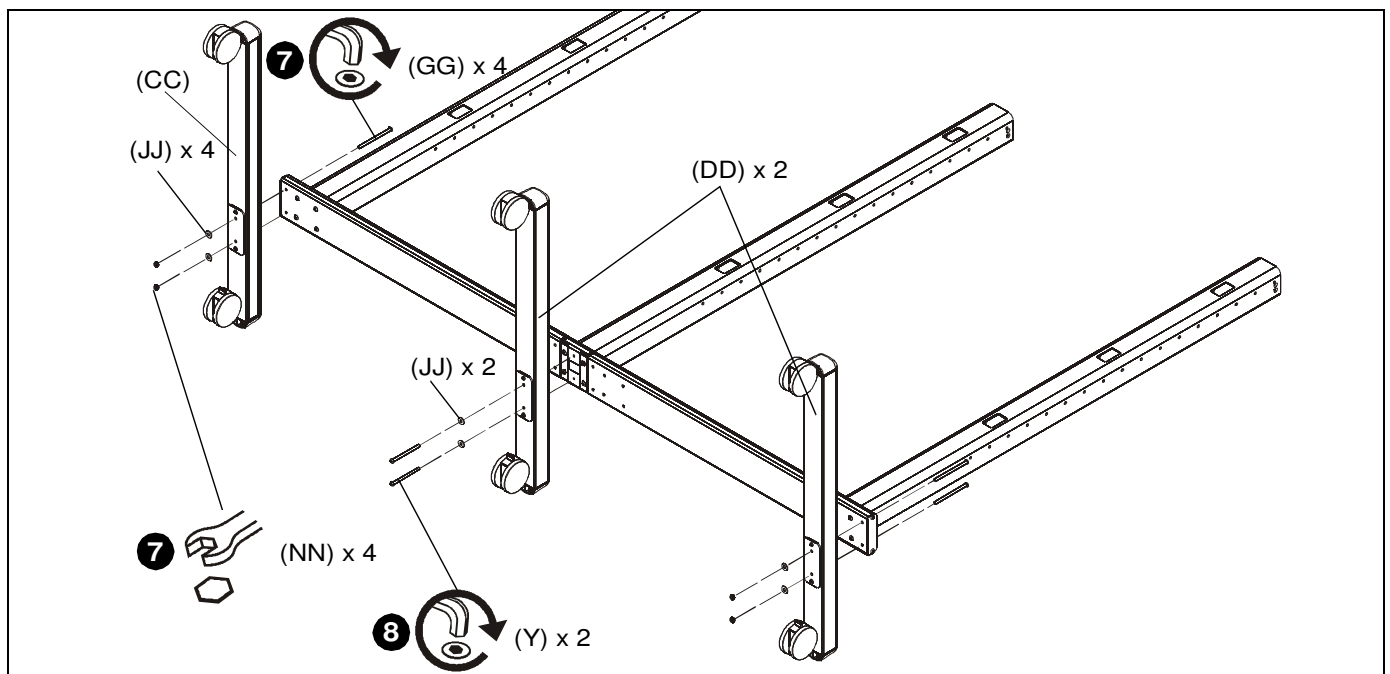

Figure 6
7. Use four 5/16-18 x 5" button head cap screws (GG), four 5/16" washers (JJ) and four 5/16-18" lock nuts (NN) to secure left and right legs (CC and DD) to cross bar (J). (See Figure 6)
8. Use two 5/16-18 x 4 1/2" button head cap screws (Y) and two 5/16" washers (JJ) to secure second right leg (DD) to extender blocks (U). (See Figure 6)